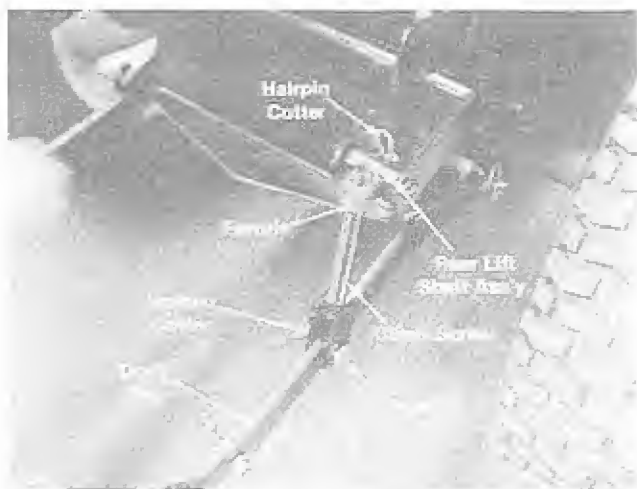

FIGURE 5.
4. Thread the ferrule onto the clevis screw until approximately a half inch of thread is showing above the ferrule. See figure 5.